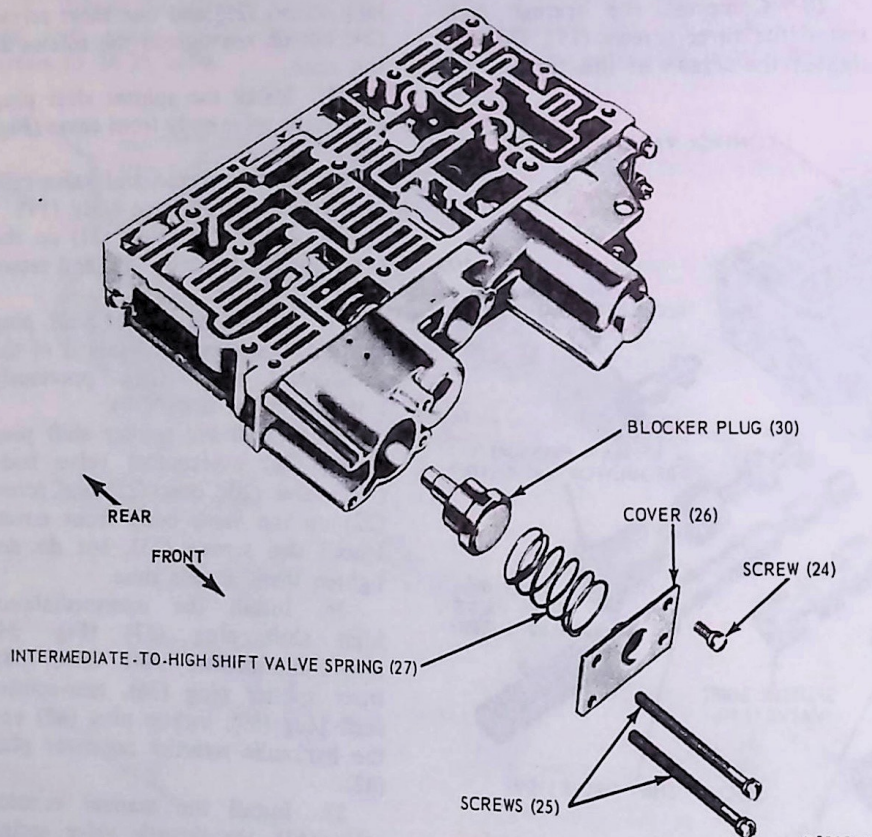

FIG. 32 Intermediate-to-High Shift Valve Components
28. Compress the springs and install the three screws (15). Do not tighten the screws at this time.
29. Install the intermediate-to-high blocker plug (30) (Fig. 32) and shift valve spring (27).
30. Install the cover (26), two long screws (25) and one short screw (24) but do not tighten the screws at this time.